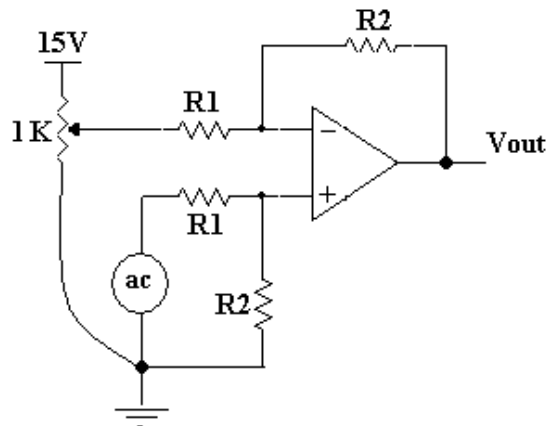

Figure 7.6
1. Implement the circuit shown in figure 7.6